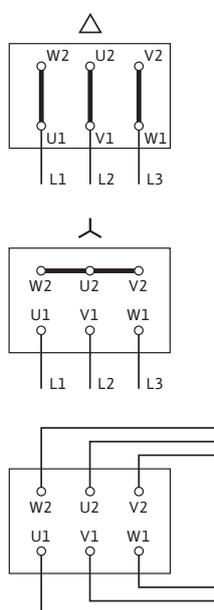

Fig. 17: Mains connection
The connection diagram for electrical connections is in the cover of the terminal box cover (see also Fig. 17).
- The mains connection is dependent on the motor power P_2 , the mains voltage and the activation type. The recommended switching arrangement of the connection bridges in the terminal box should be taken from the following list "Table 4: Connection terminal assignment" on page 45 and Fig. 17.